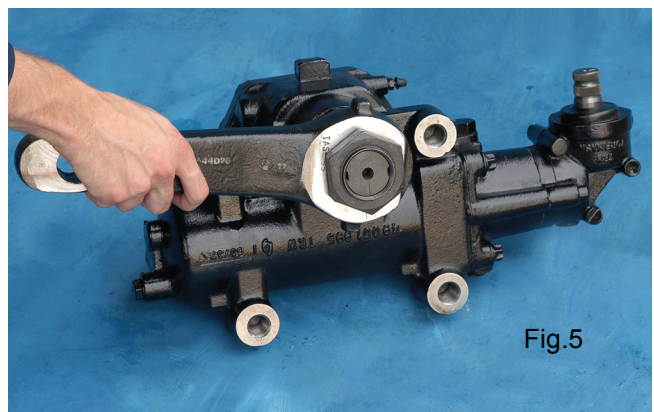

Fig.5
If the sector shaft adjusting screw is accessible for adjustment, remove the drag link from the pitman arm (Fig.5).
With the sector shaft (42) in the centre position, grasp the pitman arm and gently try to move this arm back and forth in the direction of travel. Fingertip force is adequate to detect lash of loose sector shaft. There must not be movement of the input shaft or sector shaft (Fig.5).